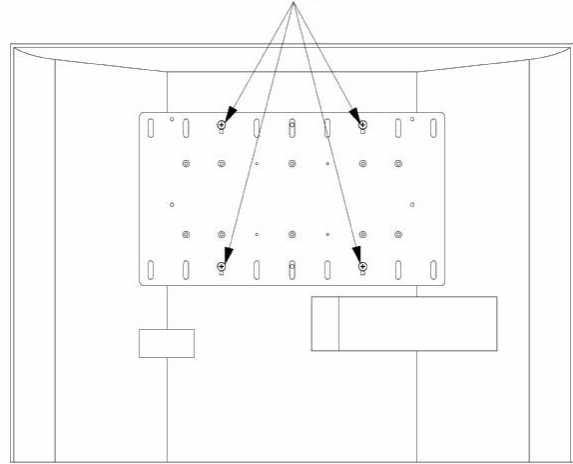
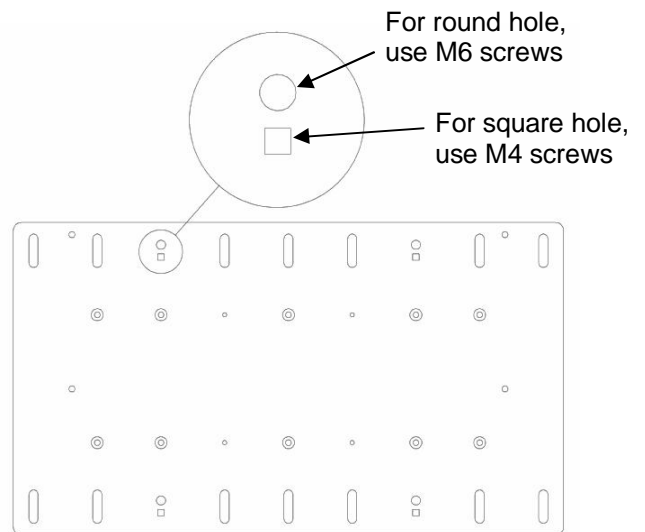

Figure 13. Display with 200mm x 200mm Hole Pattern
Figure 14. Select Round Hole or Square Hole As Needed
- a. If using square hole on interface bracket (20), select four Phillips head M4 screws from Bag A.
- b. If using round hole on interface bracket (20), select four Phillips head M6 screws from Bag B.
- c. Select spacers (140) or (150) from Bag C.
2. Attach the interface bracket (20) using the hole-pattern on the back of your display as shown in Figure 13 and Figure 14.